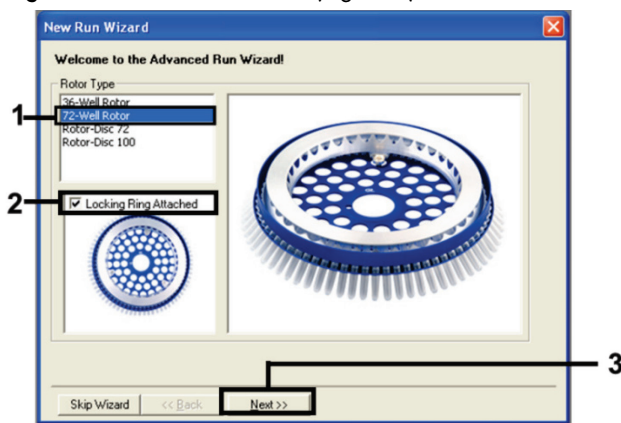

Figure 1. The “New Run Wizard” dialog box.
3. Select **72-Well Rotor** as the rotor type. Ensure that the locking ring is attached and check the **Locking Ring Attached** box. Click **Next** (Figure 1).